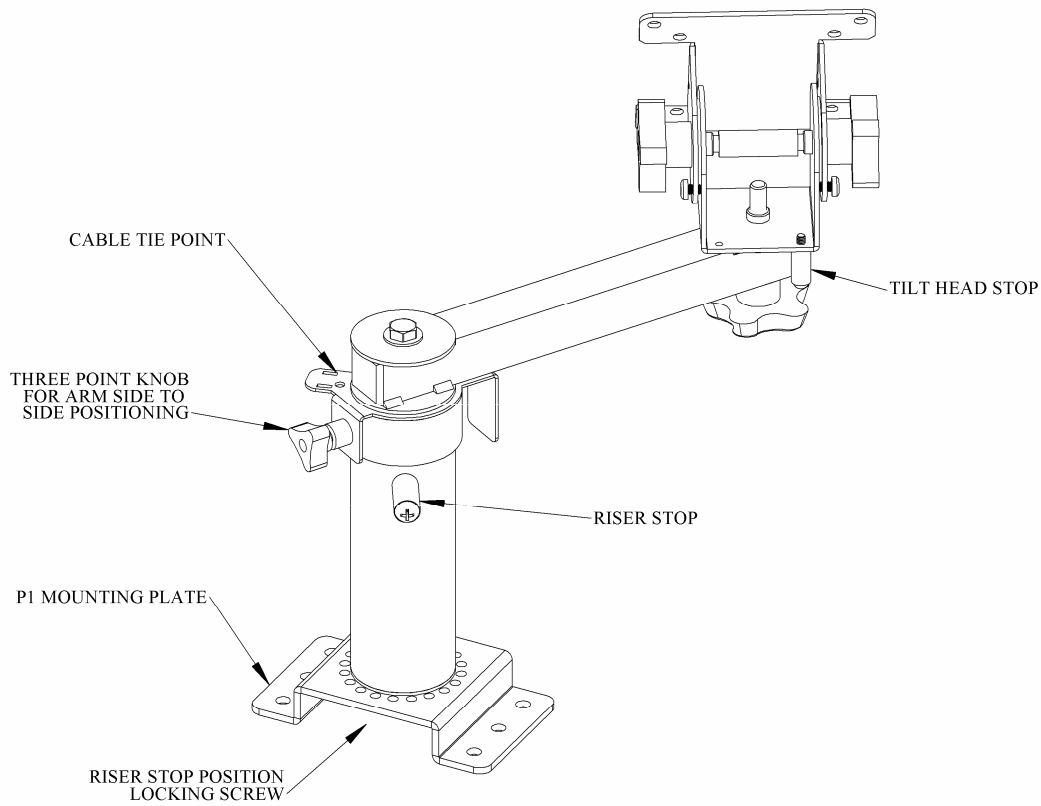

Figure 2 - Pedestal Mount w/ 6" riser, 8" arm and a screen pan and tilt head (PN 80080)
1. Preassemble the mount for the desired configuration with the pan and tilt head and/or *Universal Printer Mounting Tray* attached, but without the equipment installed (See Figure 2).
The pan and tilt head stop keeps the pan and tilt head from doing a full rotation around the end of the arm (See Figure 2). This protects the cabling that connects to the equipment from being wrapped around the pan and tilt head and possibly becoming damaged. The pan and tilt head is set at the factory to prevent the arm from being rotated one entire revolution to the left. If this setting does not work for your application, the riser stop can be easily removed from the bottom of the pan and tilt head with a Philips screwdriver and installed on the other side.
1. Slightly loosen the three point knob on the side of the *Riser Cap* enough so that the arm will move freely (See Figure 2).
The riser stop keeps the arm from doing a full rotation around the riser (See Figure 2). This protects the cabling that connects to the equipment from being wrapped around the *riser* and possibly becoming damaged. The *riser stop* is set at the factory to prevent the arm from being rotated one entire revolution to the left. If this setting does not work for your application, the *riser stop* can be easily adjusted.